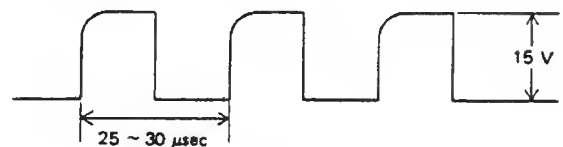

Fig. 7
- 2) Adjust VR1 to obtain maximum clock cycle of 30 $\mu$ sec. See fig. 7.